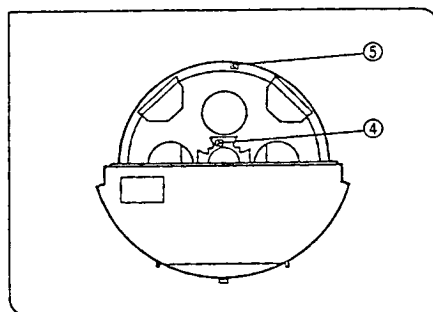

Fig. 4
★ The cube indices A, B, C, D **④** on the dovetail mount correspond to the turret's A, B, C, D indices **⑤**. Make sure to match the attached cube correctly with the position of the removed magnetic index sticker (WU, NU, etc.) on the turret. (Fig. 4)